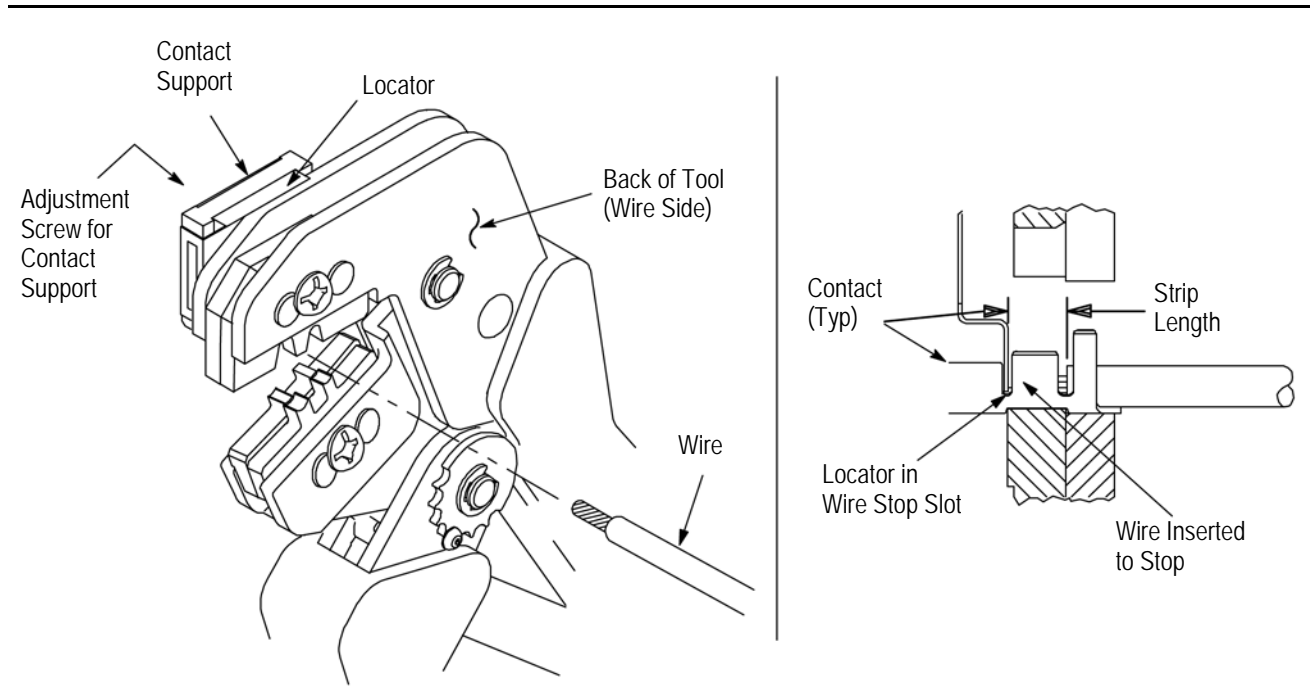

Figure 3
4. CONTACT SUPPORT ADJUSTMENT (Figure 3)
Refer to the table in Figure 1 and select wire of the specified size and insulation diameter. Strip the wire to the length indicated in Figure 1, taking care not to nick or cut wire strands. Select an applicable contact and identify the appropriate crimp section according to the wire size markings on the tool. Refer to Figure 3 and proceed as follows:
3. Position the contact so that the mating end of the contact is on the locator side of the tool, and so that the open "U" of the wire and insulation barrels face the top of the tool. Place the contact up into the nest so that the movable locator drops into the slot in the contact. Refer to Figure 3. Butt the front end of the wire barrel against the movable locator.
5. Insert stripped wire into contact insulation and wire barrels until it is butted against the wire stop, as shown in Figure 3.
*The crimped contact may stick in the crimping area, but the contact can be easily removed by pushing downward on the top of the locator (see Figure 3).*